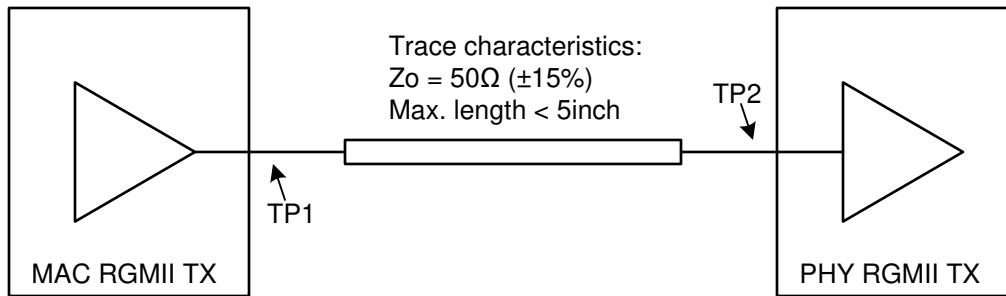

Figure 7-15. RGMII TX Requirements
- Figure 7-15 shows a RGMII interface requirements for TX* signals. MAC RGMII driver output impedance should be 50Ohm+/-20%.
- Skew for all RGMII TX signals at TP2, in Figure 7-15, should be $\pm 500ps$.
- Signal Integrity at TP1 and TP2, in Figure 7-15, should be verified with IBIS model simulation and ensured conformance to following requirements: